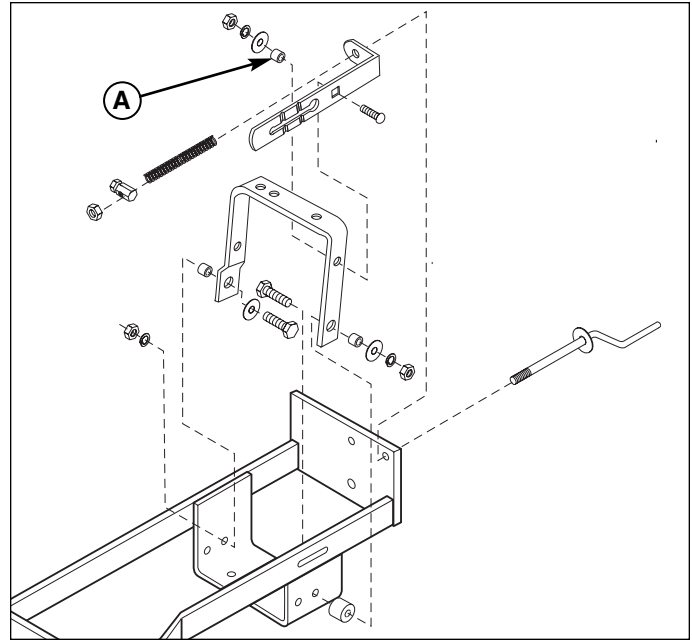

Figure 3. Replace Tension Assy. Spacer
3. Remove and replace the spacer (A, Figure 3) in hitch turn-buckle support with the spacer provided.